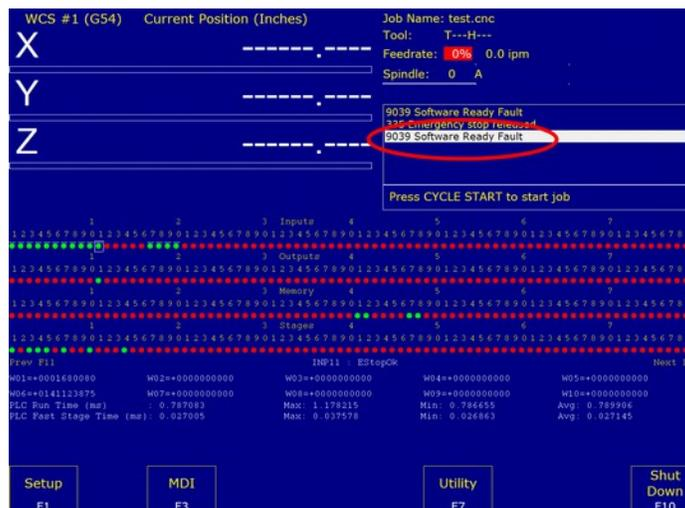

Figure 4.1.7
9. **Clear Software Ready Faults** Anytime the CNC11 software has been exited and restarted without the hardware also being powered off and restarted, the CNC11 software will report a “Software Ready Fault” as demonstrated below in Figure 4.1.7. A “Software Ready Fault”, like spindle, lube, encoder and position fault is a “stop fault”. A “stop fault” removes power from all motors, prevents program or MDI operation, turns off all drive and spindle enables and requires that the Estop input MUST be cycled in order to clear the fault. During the bench test we will trick the software into thinking we cycled the E-stop (not connected yet), by toggling the input 11 using alt + I.